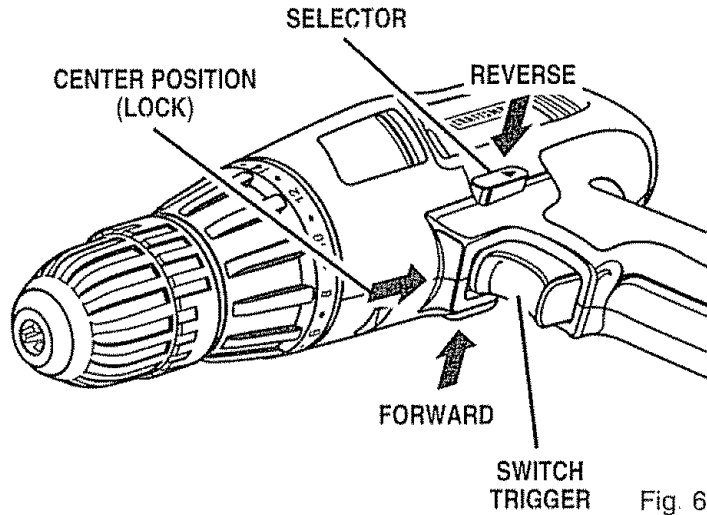

Fig. 6
- Lock switch trigger on your drill by placing the direction of rotation selector in center position. See Figure 6.
See Figure 6.
- Lock the switch trigger by placing the direction of rotation selector in center position. See Figure 6
- Lock the switch trigger by placing the direction of rotation selector in center position. See Figure 6.